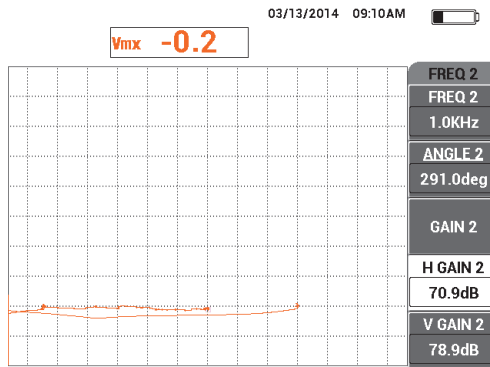

Figure 5-108 Adjusting the H GAIN 2 value
15. While firmly pressing the probe at position 2 on the standard, observe the **MIX** signal point, and then press the MAIN FILTER menu key (\otimes) and decrease the **H GAIN 2** (D key) until the **MIX** signal operating point does not extend more than 3 divisions to the left of the null point (see Figure 5-108 on page 203).